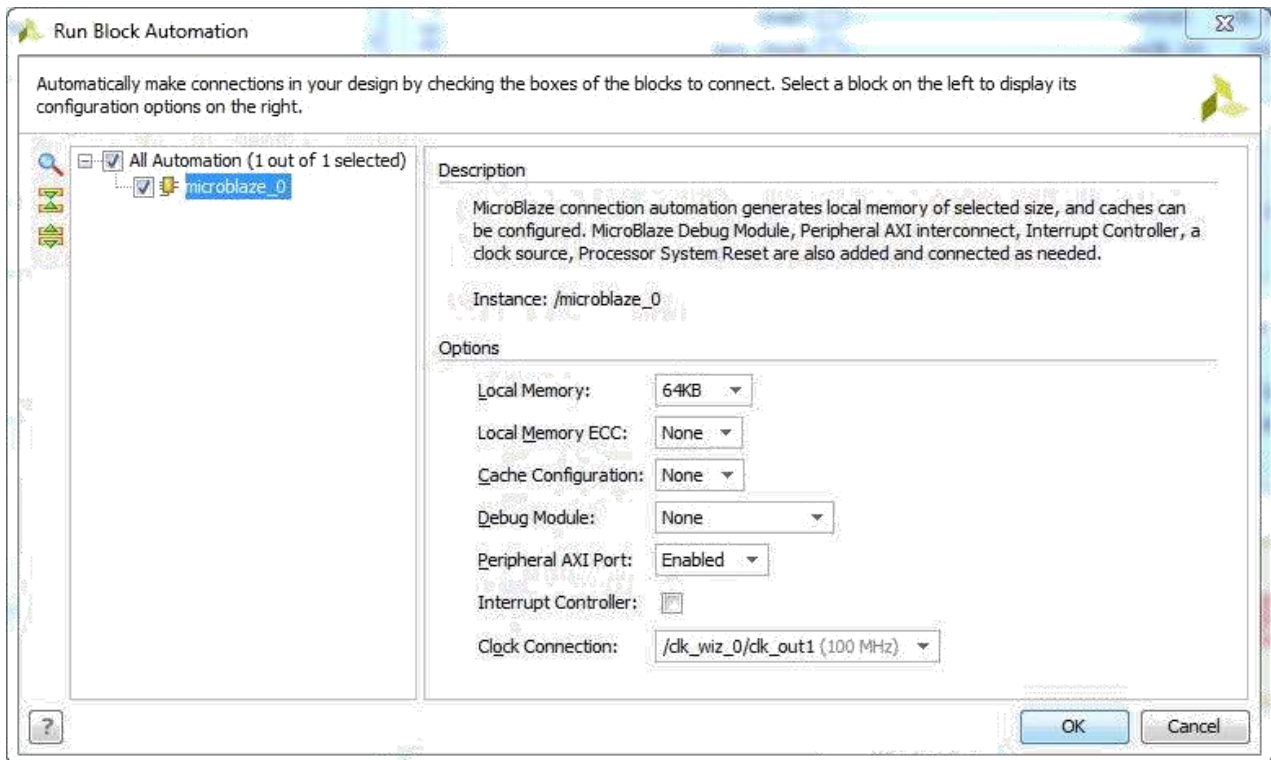

Figure 10: Run Block Automation dialogue box
2. The Block Automation dialog box opens as shown in Figure 10. Here we recommend you set the following parameters (for your MicroBlaze processor):